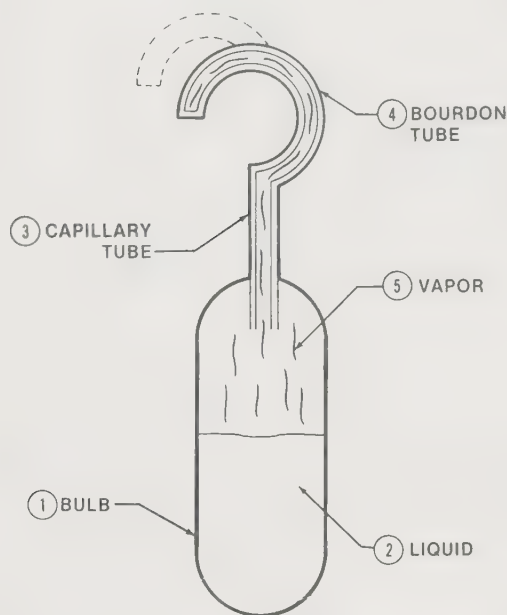

Figure 9-6. The vapor-filled Bourdon tube thermometer can be installed up to 200' from the source.
The vapor-pressure thermometer uses a vapor in the bulb and operates using the same principle as the liquid-filled Bourdon tube. See Figure 9-6. The bulb (1) is only partly filled with liquid (2). The capillary tube (3) and Bourdon tube (4) are filled with vapor (5).